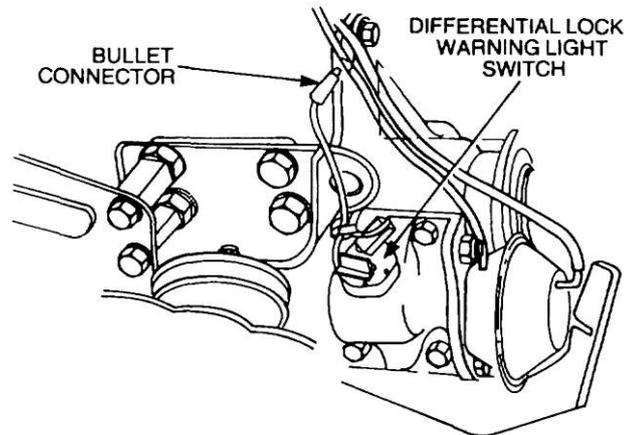

Figure 64 Connection of the Differential Lock
- u.** Install the bullet electrical connector on the differential lock warning light switch (Figure 64) and connect the vacuum hoses to the differential lock vacuum chamber, ensuring that the red hose is connected to the front fitting.